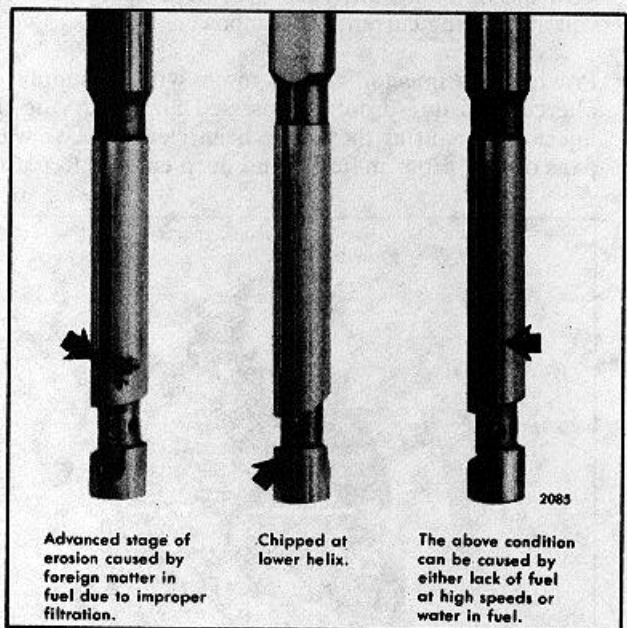

Fig. 10. Unusable Injector Plungers
4. Inspect the plunger. If the plunger is chipped (Fig. 10), replace the plunger and bushing assembly.